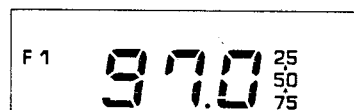

Fig. 12
Each time the \triangleleft Tuning Button ⑪ is pressed, the frequency decreases 25kHz. If you continue to press the button without releasing it, the frequency will continuously decrease in 25kHz increments. (Fig. 12)